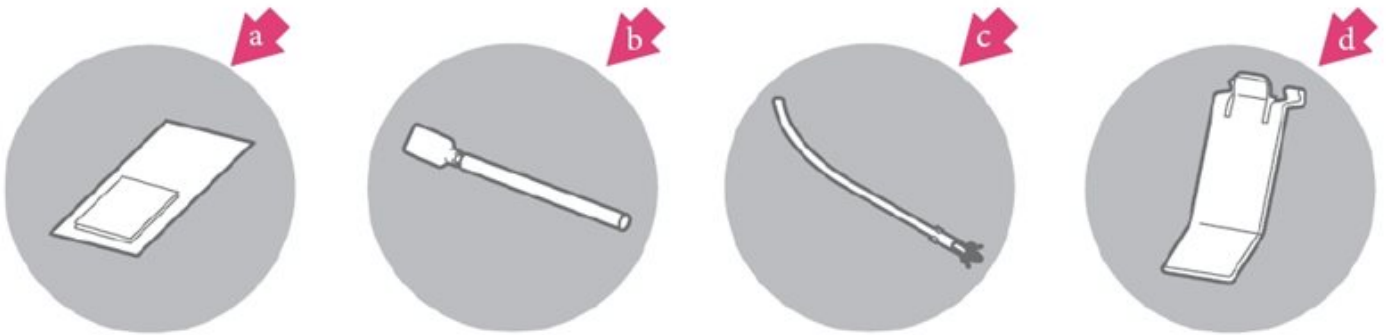

Figure 3
3. Open the accessory box (located in the printer box) and confirm that it contains the following. See Figure 3.